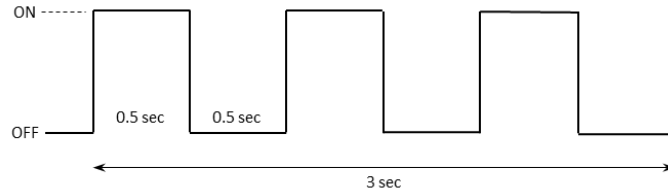

Figure 2-9: The GREEN LED Pattern After the Magnetic Wake-Up/Reset Pattern is Observed
1. **GREEN** is toggled ON and OFF every 0.5 sec for 3 sec as shown in Figure 2-9.